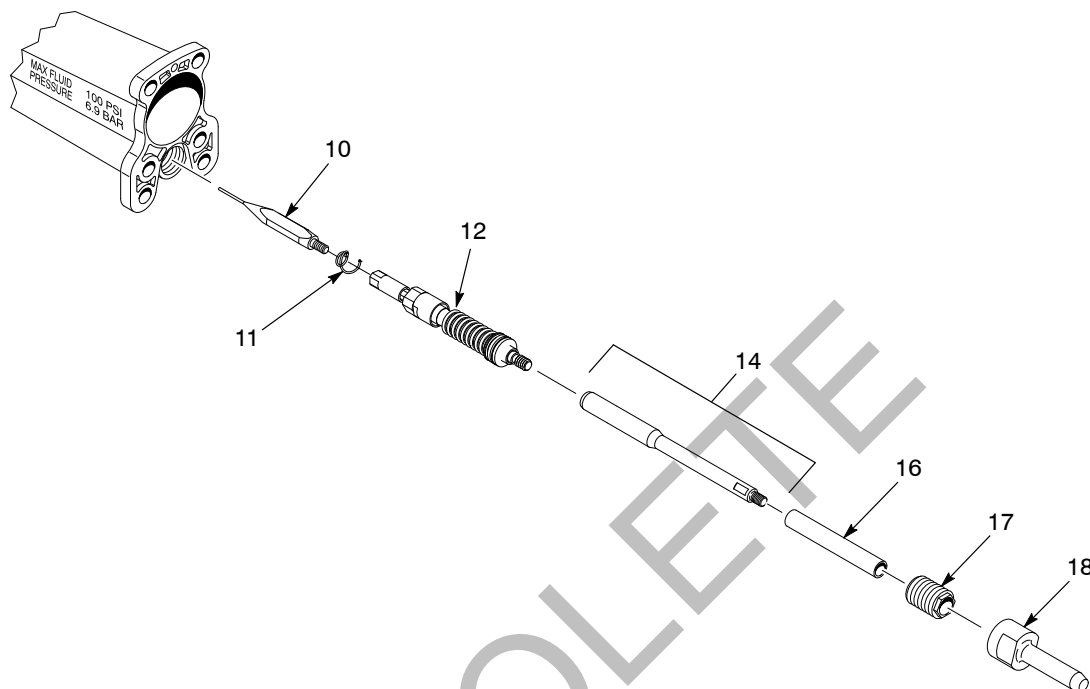

Figure 7-7 Packing Cartridge and Needle Replacement
**NOTE:** See Figure 7-7. The contact spring (11) may come out with the needle.
2. See Figure 7-7. Inspect the contact spring (11) and replace if damaged.
**NOTE:** A removeable threadlocking adhesive can be applied to the threads of the new needle (10) if there are problems with the needle backing out.
See Figure 7-7.